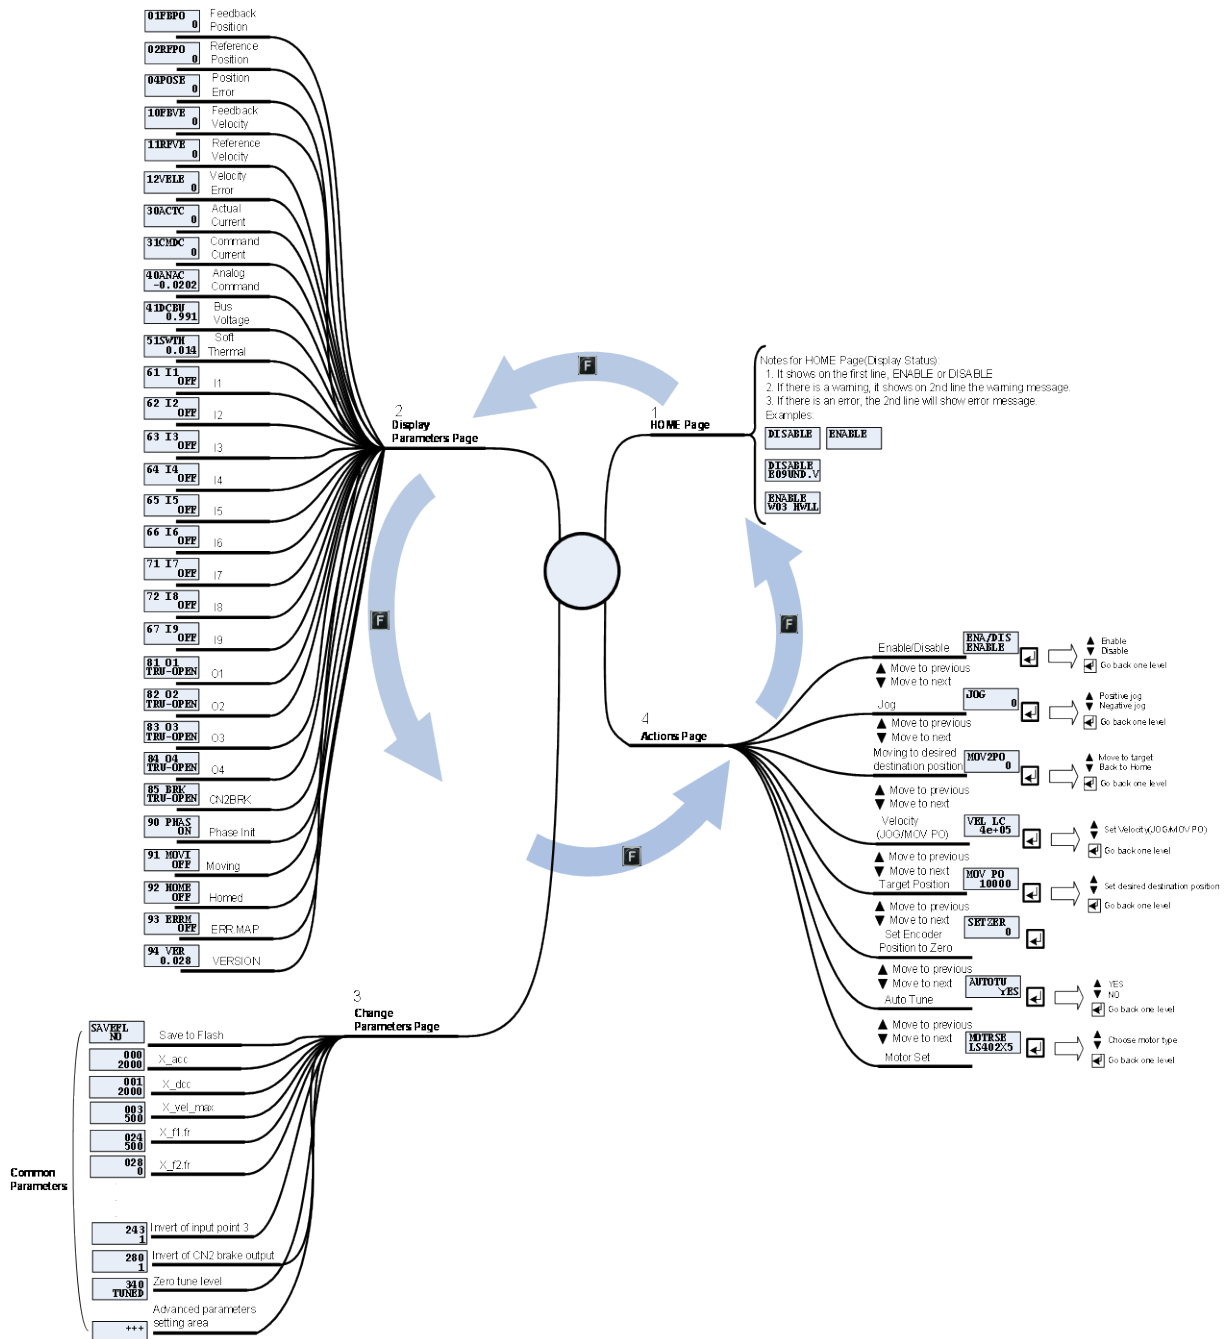

Figure 7.1.2.1 Overall LCD operation structure
There are four modes on the display panel: home page, display parameters page, change parameters page, and actions page. Press the F key to switch to other mode. The overall structure of LCD is shown in figure 7.1.2.1.
- (1) Press the Enter key to set motor model (“MOTRSE”), and then press the Up key or Down key to select the motor model name connected to the drive. This example is “LS402XX5”. If the 9-th bit of motor model name is 4 or 6, it uses the serial encoder and the motor model name is unnecessary to be selected. Press the Enter key to confirm the motor model name.
- (2) The LCD screen changes to the gain setting page of “ZeroTune” (“ZT”). Servo loop gains can be easily set without complex procedures via “ZeroTune”. Only by selecting the load level of motor, the well stable velocity response can be achieved. Even a beginner who has no knowledge about the servo control can easily drive a motor. Press the Enter key to enter the “ZT” setting, and then press the Up key or Down key to select the load level (“LV”). Figure 7.1.2.1 shows the reference weight corresponded to the load level. After selecting the appropriate load level, press the Enter key to confirm it.
- (3) The LCD screen moves to the setting page of operation mode (“MODE”). Press the Enter key to enter the “MODE” setting. Press the Up key or Down key to select “STNDALON”, and then press the Enter key to confirm the change of operation mode.
- (4) The LCD screen moves to the “SAVE TO FLASH” page (“SAVEFL”). Press the Enter key to enter the setting page of saving parameters to Flash, and then press the Up key or Down key to select “NO”. Press the Enter key to confirm that parameters do not be saved to Flash. Refer to Section 7.5.1 for more information.
- (5) The LCD screen moves to the home page. At this time, “SVNRDY” is displayed to indicate that the motor is not enabled yet. Now, the setting of motor parameter initialization is completed.